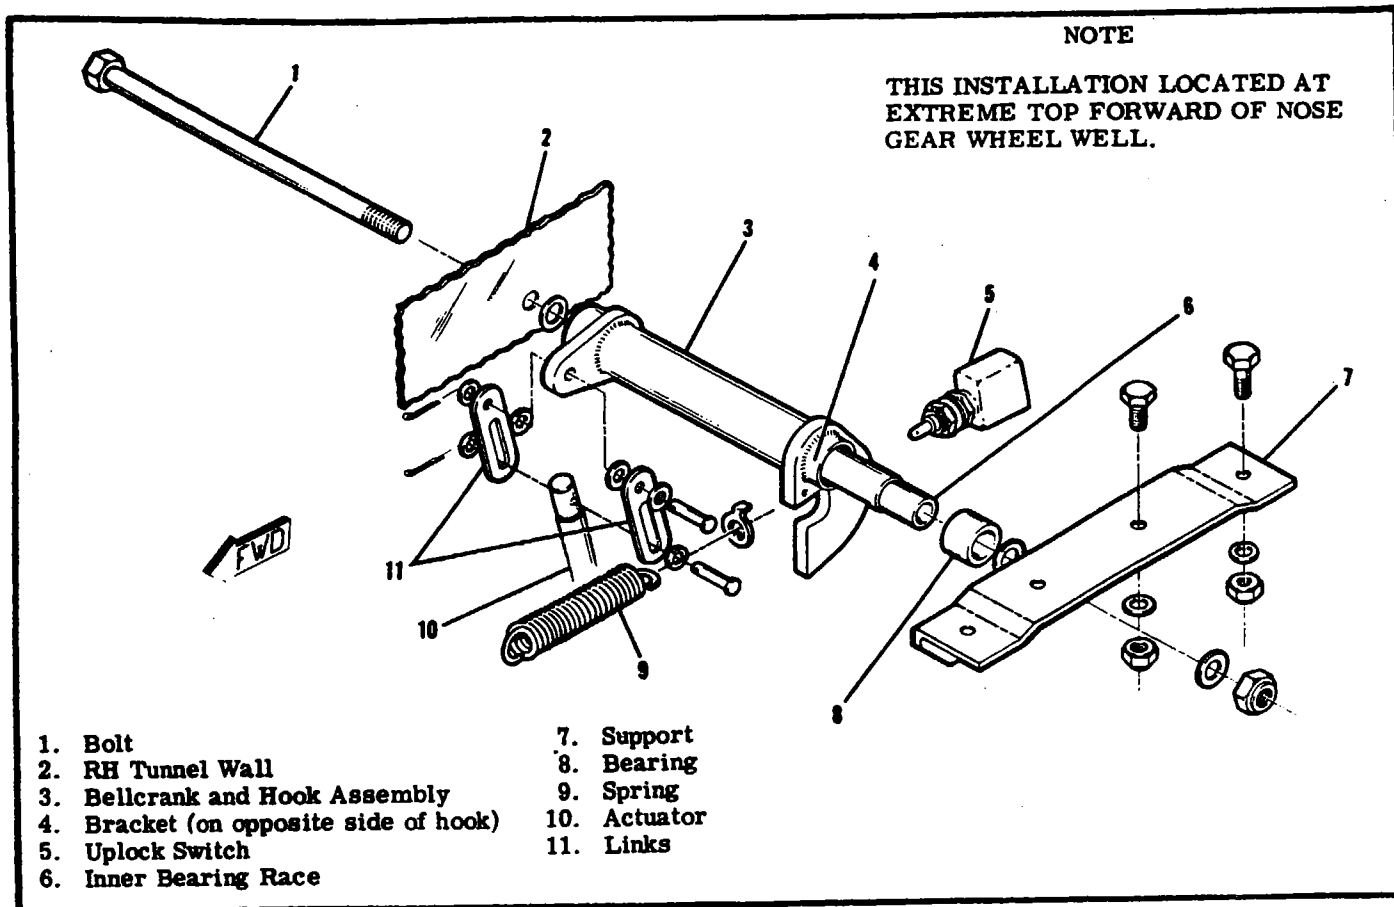

Figure 5-18. Nose Gear Uplock Mechanism
5-102. NOSE GEAR UPLOCK MECHANISM. (Refer to figure 5-18.)
5-104. REMOVAL OF NOSE GEAR UPLOCK MECHANISM. (Refer to figure 5-18.)
5-105. INSTALLATION OF NOSE GEAR UPLOCK MECHANISM. (Refer to figure 5-18.)
- b. Assemble and attach nose gear downlock mechanism to lower trunnion as shown in figure 5-18.